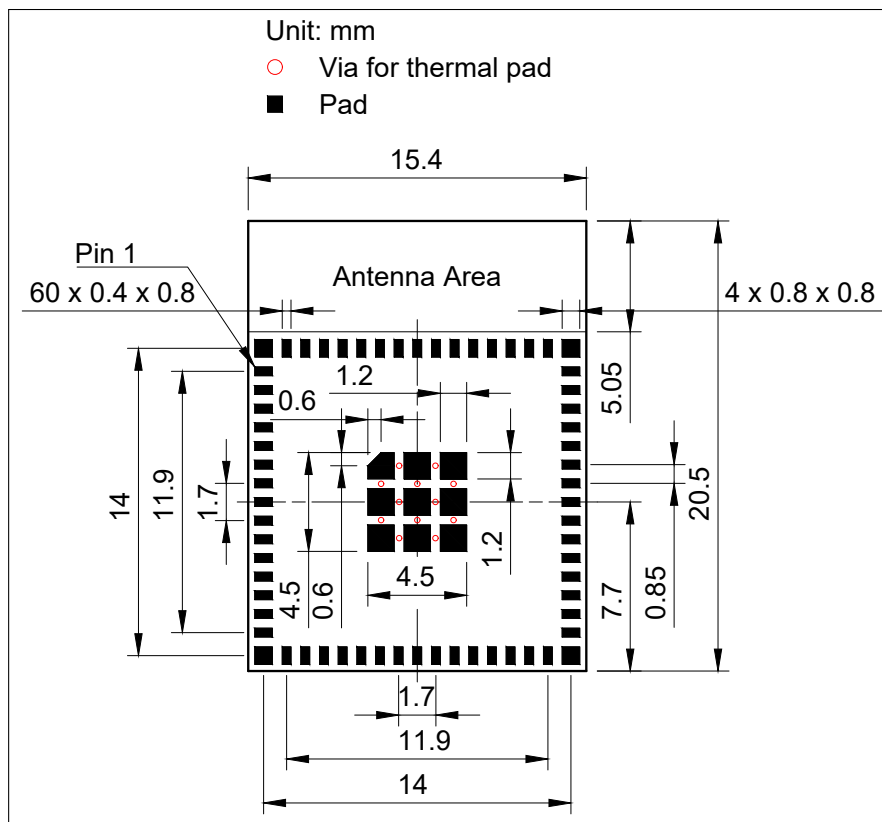
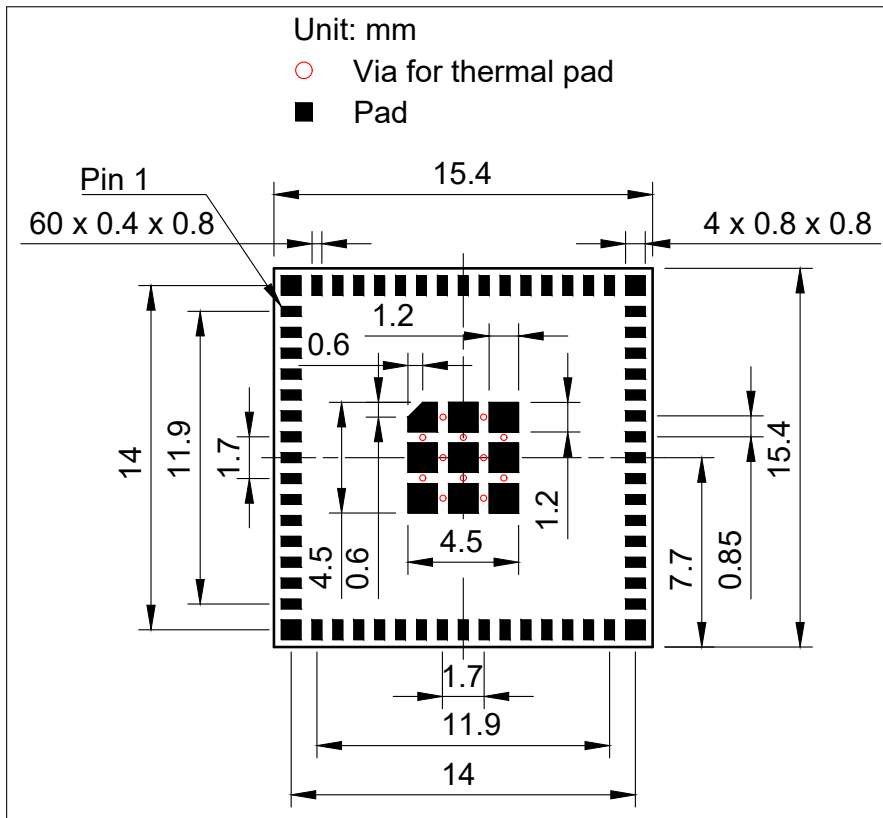

Figure 10: ESP32-S3-MINI-1 Recommended PCB Land Pattern
Figure 11: ESP32-S3-MINI-1U Recommended PCB Land Pattern
- Figures for recommended PCB land patterns with all the dimensions needed for PCB design. See Figure 10 *ESP32-S3-MINI-1 Recommended PCB Land Pattern* and Figure 11 *ESP32-S3-MINI-1U Recommended PCB Land Pattern*.
- Source files of recommended PCB land patterns to measure dimensions not covered in Figure 10 and Figure 11. You can view the source files for ESP32-S3-MINI-1 and ESP32-S3-MINI-1U with Autodesk Viewer.